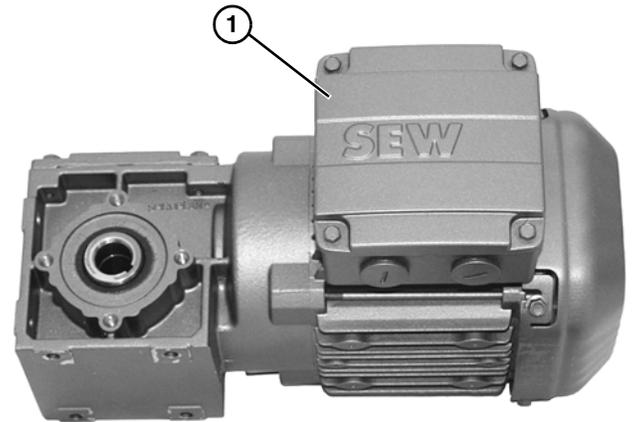

Figure 12
1. Remove cover (Figure 12, item 1).